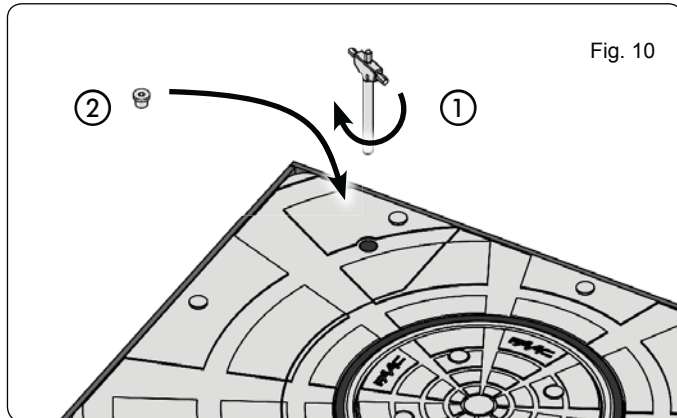

Fig. 10
2. Turn clockwise till end of stroke (fig. 10 ref. ①).
3. Tighten again the closing screw on the bollard head (fig. 10 ref. ②).